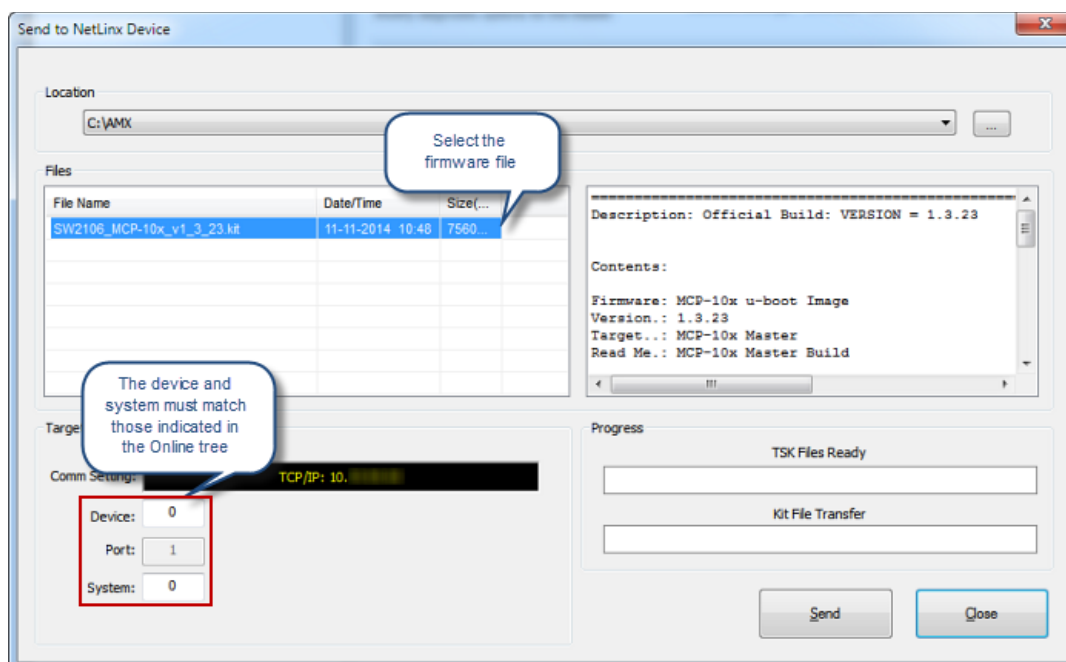

FIG. 37 Send to NetLinx Device dialog (showing on-board MCP-106 firmware update)
- Note that the *Port* field is disabled (FIG. 37).